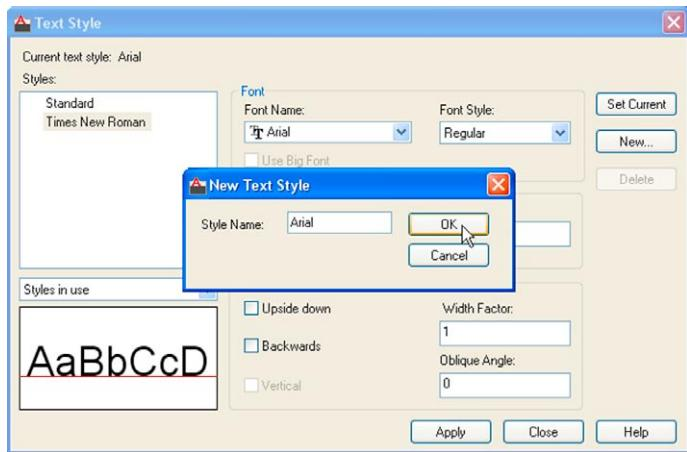

Fig. 4.9 The New Text Style sub-dialog
3. Left-click the **New** button and enter **Arial** in the **New** text style sub-dialog which appears (Fig. 4.9) and click the **OK** button.